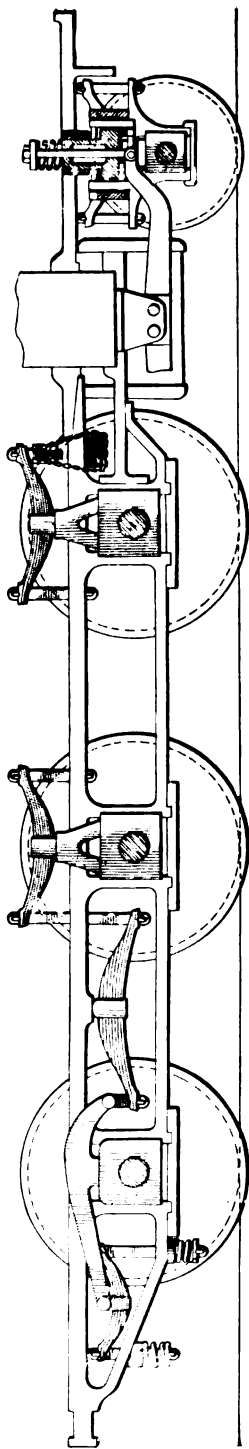

FIG. 38.
**76. Second Method.**—Another method of blocking up, in case the front pin, or “Aleck bolt,” of the long truck equalizer breaks, is shown in Fig. 38. To block up in this manner, jack up the front end of the engine, either by means of jacks or by